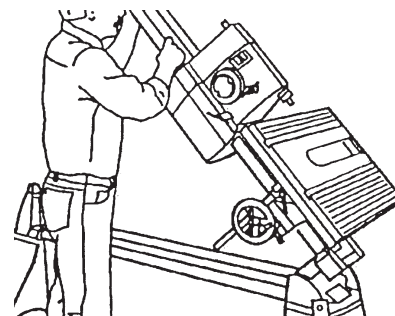

Figure 12
2. Tighten the Headstock and Carriage Locks. Place the MARK V in the vertical position by loosening the Headrest Handle, firmly grasping the Way Tubes near the Headrest end, and lifting the Tubes into the 90° position, as demonstrated in Figure 12.